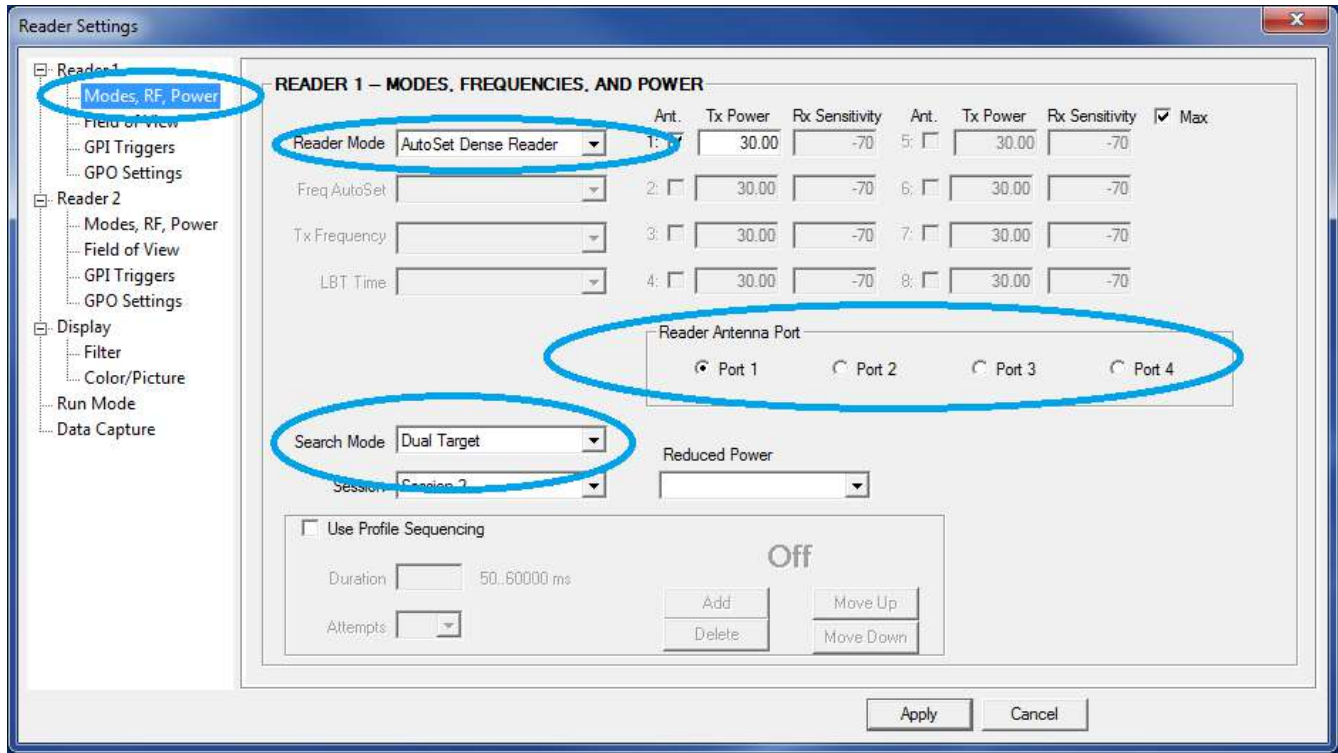

Figure 6.4 MultiReader Reader Settings Settings Screen
6. In the **Reader Settings** dialog box, in the left pane under Reader 1, click **Modes, RF, and Power**. The page shown in Figure 6.4 displays.
11. For each enabled antenna, set the appropriate transmit power in **Tx Power**, and set the appropriate receive sensitivity in **Rx Sensitivity**. For more information, see Figure 6.4.